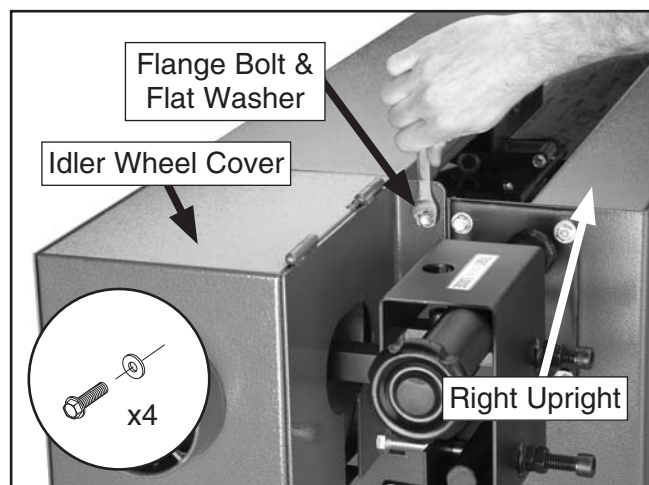

Figure 22. Idler wheel cover.
15. Attach the idler wheel cover to the right upright with (2) $\frac{5}{16}$ "-18 x $\frac{1}{2}$ " flange bolts and (2) $\frac{5}{16}$ " flat washers (**Figure 22**).